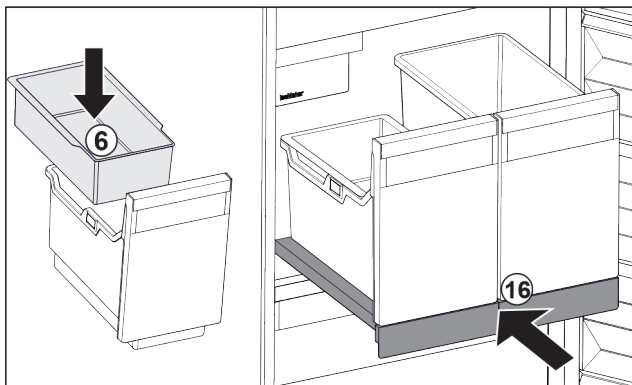

Fig. 124
- ▶ Insert hang-on tray Fig. 124 (6) for ice cubes.
- ▶ Slide in the pull-out board with (IceTower) container. Fig. 124 (16)